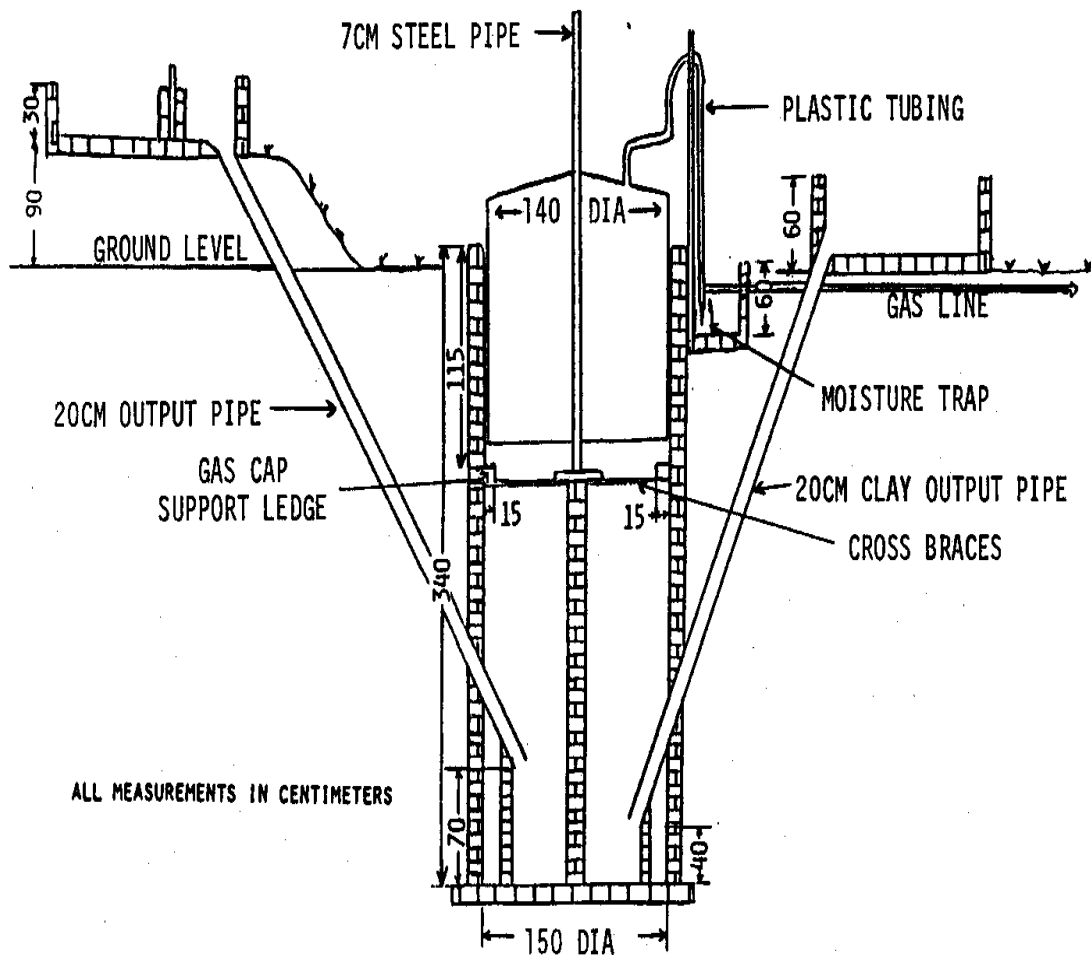

Figure 3. 3-Cubic-Meter Gas Digester
- * Make a ledge or cornice at two-thirds the height (226cm) of the pit from the bottom. The ledge should be about 15cm wide for the gas cap to rest on when it is empty (see Figure 3).
- * Have one end of the input piping 90cm above ground level and the other end 70cm above the bottom of the pit (see Figure 3).